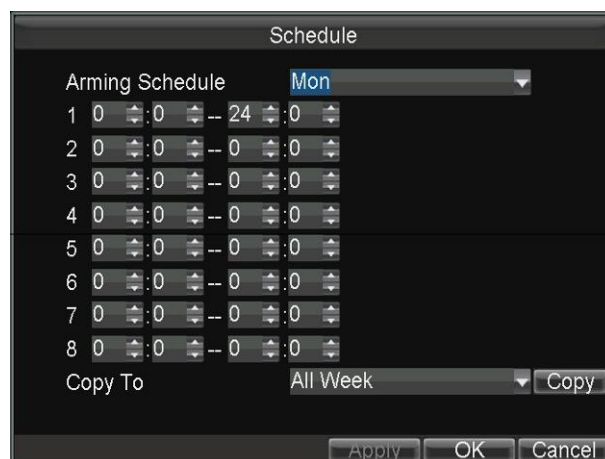

Figure 7.4 Arming Schedule Interface
4. Click the **Set** button for **Schedule** to set the arming schedule as shown in Figure 7.4. Up to 8 time periods can be set within each day. You can click **Copy** to copy the settings to other days.